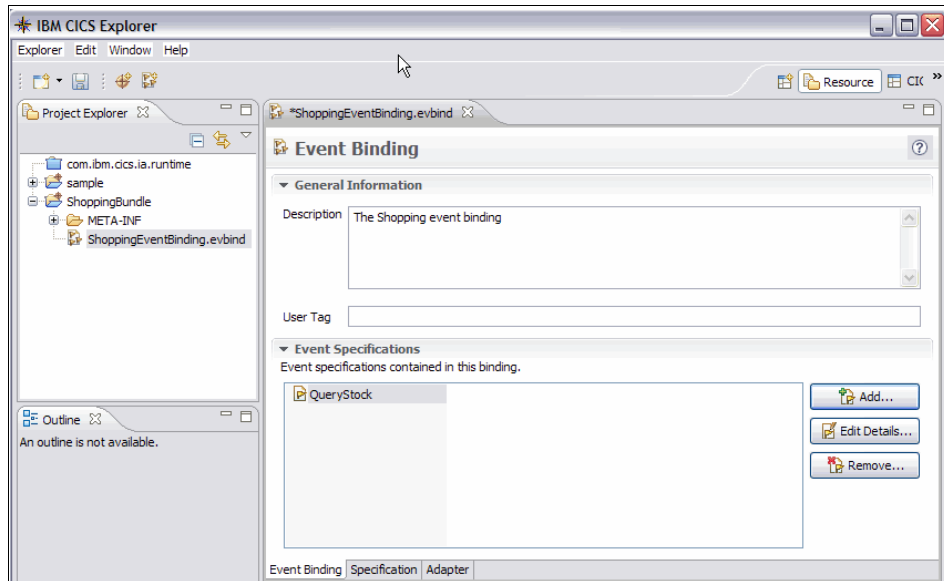

Figure 5-46 Add event specification
1. In the IBM CICS Explorer, open the **Resource Perspective** and expand the **ShoppingEventBundle**. Double-click ShoppingEventBinding.evbind. This opens the Event Binding edit window (Figure 5-46 on page 131). Click **Add** next to the Event Specification part of the window.